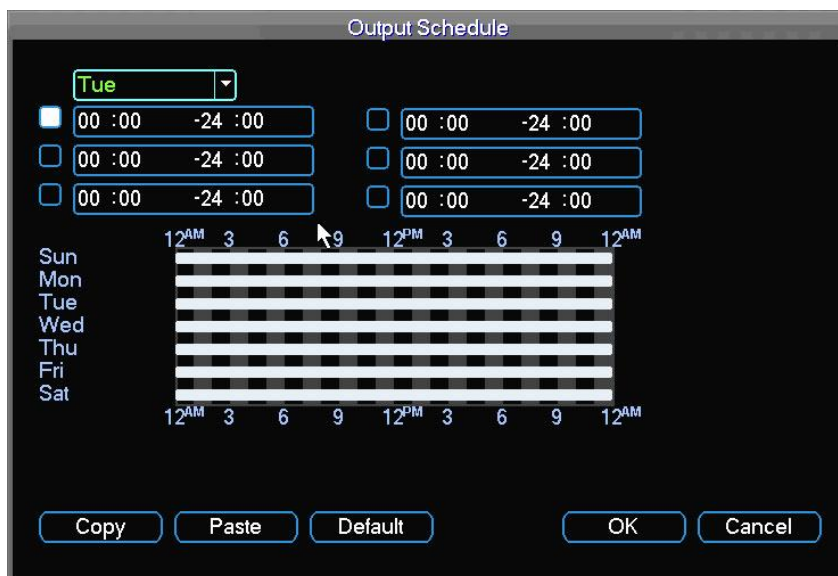

Figure 4-25
- Period: Click set button, you can see an interface is shown as in Figure 4-25. Here you can set for business day and non-business day. In Figure 4-28, click set button, you can see an interface is shown as in Figure 4-29. Here you can set your own setup for business day and non-business day.